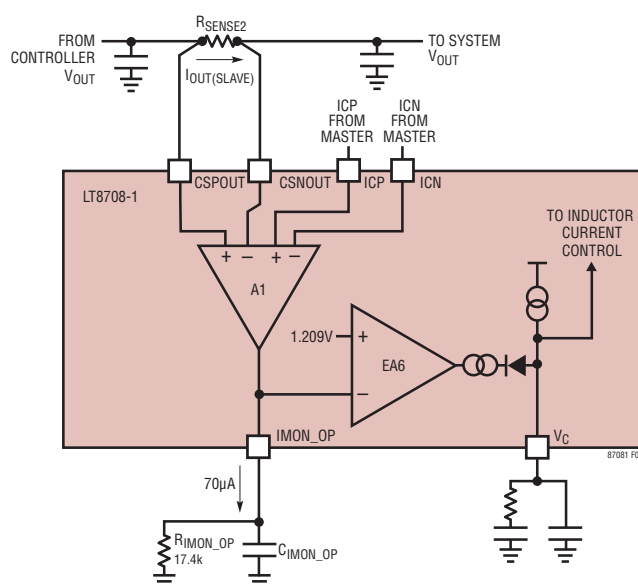

Figure 10.  $I_{\text{OUT(SLAVE)}}$  Current Regulation and Monitor
Figure 10 shows the primary LT8708-1 circuits involved in the regulation of  $I_{\text{OUT(SLAVE)}}$ . Additional circuitry is shown in Figure 1.  $I_{\text{OUT(SLAVE)}}$  is regulated by a feedback loop with ICP and ICN setting the desired current. The feedback loop involves the following sections:
- Resistor  $R_{SENSE2}$  converts the  $I_{OUT(SLAVE)}$  current into a voltage that can be measured by amplifier A1. This voltage is denoted as  $V_{(CSPOUT-CSNOUT)S}$  in Figure 10.
$$I_{OUT(SLAVE)} = \frac{V_{(CSPOUT-CSNOUT)S}}{R_{SENSE2}} = \frac{40\text{mV (from Figure 10)}}{10\text{m}\Omega} = 4\text{A}$$
$$I_{OUT(SLAVE)} = \frac{V_{(CSPOUT-CSNOUT)S}}{R_{SENSE2}} = \frac{-20\text{mV (from Figure 10)}}{10\text{m}\Omega} = -2\text{A}$$